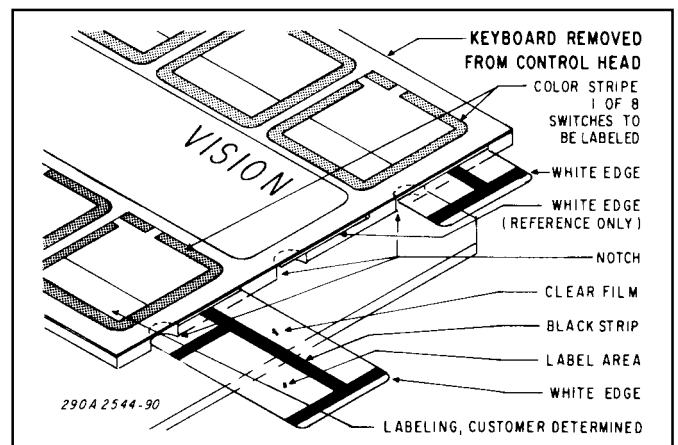

Figure 3-11. Replaceable Function Labels.
C. Place the keyboard assembly on the work surface face down. See figure 3-11. Using a small longnose pliers or tweezers, carefully grasp the white edge of the top legend strip and slide the strip out of the keyboard.
D. Select the appropriate labels from the supplied sheet of function legends. Peel the labels from the sheet and apply to the legend strip in the area provided as shown in figure 3-11. Slide the legend strip back into the keyboard.